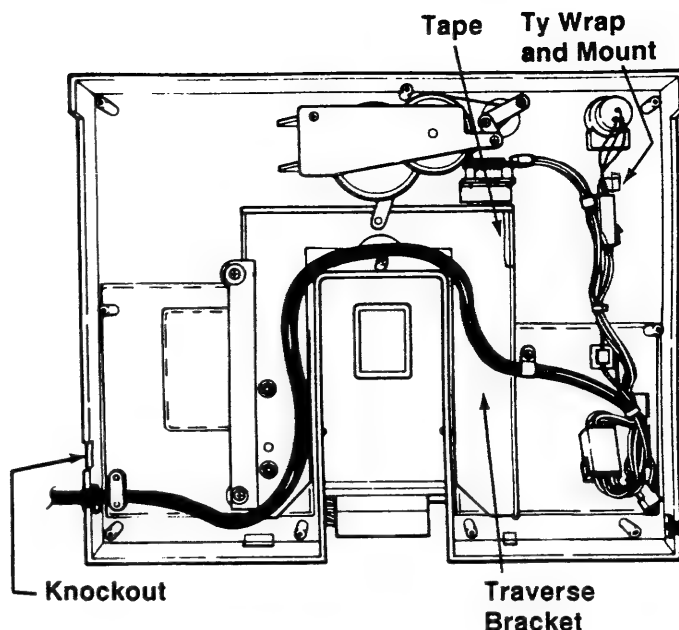

Figure 2-3.2H
24. Remove the "Knockout" from the left rear bottom edge of the Base of the M-654 if necessary (Figure 2-3.2H) and remove any burrs created.
25. Tape the Traverse Bracket (Figure 2-3.2H) if necessary to prevent damage to the insulation of the Wiring Harness.
26. Cut the Ty-Wrap securing the Wire Harness and remove the Cable Ty Mount (Figure 2-3.2H).